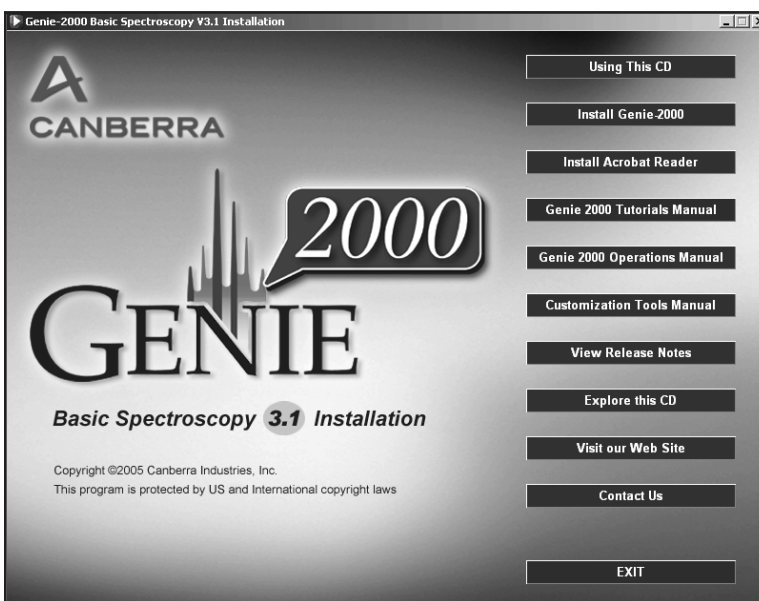

Figure 200 The Genie 2000 Installation Screen
4. The setup screen (Figure 200) offers several Genie 2000 options. In addition to installing the software, you can read the Release Notes, install Acrobat® Reader® and review the *Genie 2000 Tutorials Manual*, the *Genie 2000 Operations Manual*, and the *Genie 2000 Customization Tools Manual*.